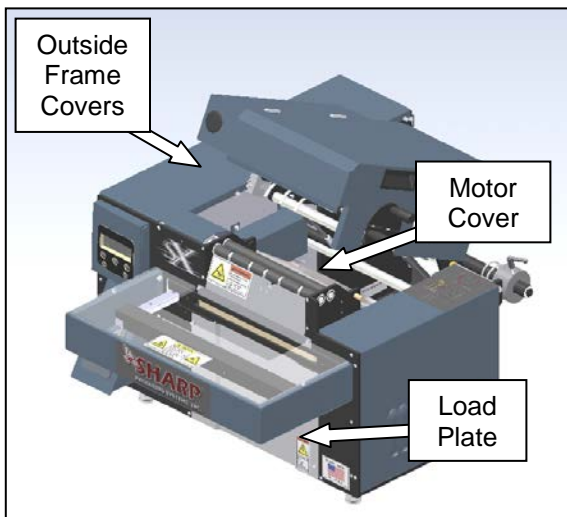

Figure 3-147. Guard Identification
1. Remove the frame guard, the load plate, and the motor cover (Figure 3-147).